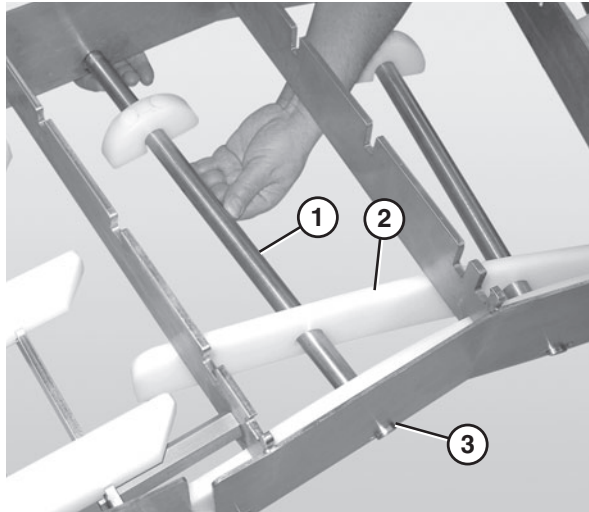

Figure 39
3. Slide the long end of the curve return shaft (Figure 39, item 1) through the center hole in the return bottom wear strip (Figure 39, item 2).
5. Push up on the return shaft and slide the notched end of the shaft through the small slot on the opposite side of the frame (Figure 39, item 3).